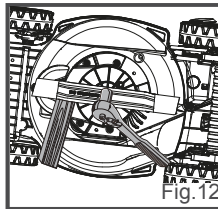

Fig.12
Replacing the Mower Blade (See Fig. 12)
- Wear sturdy gloves and hold the blade firmly. Turn the blade screw anticlockwise off the motor spindle using a suitable wrench and remove it together with the blade (Fig. 12).